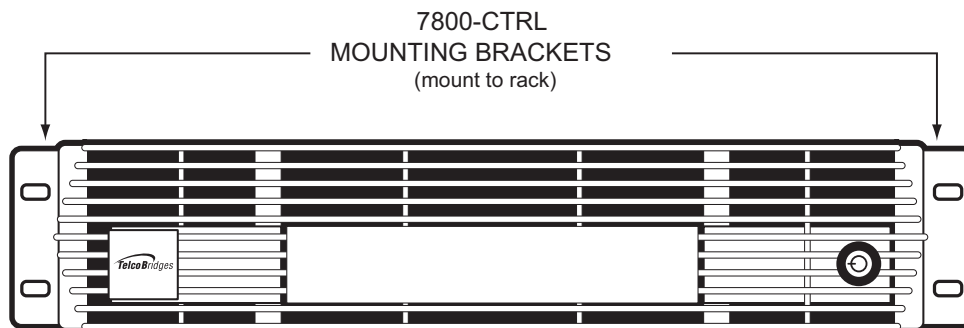
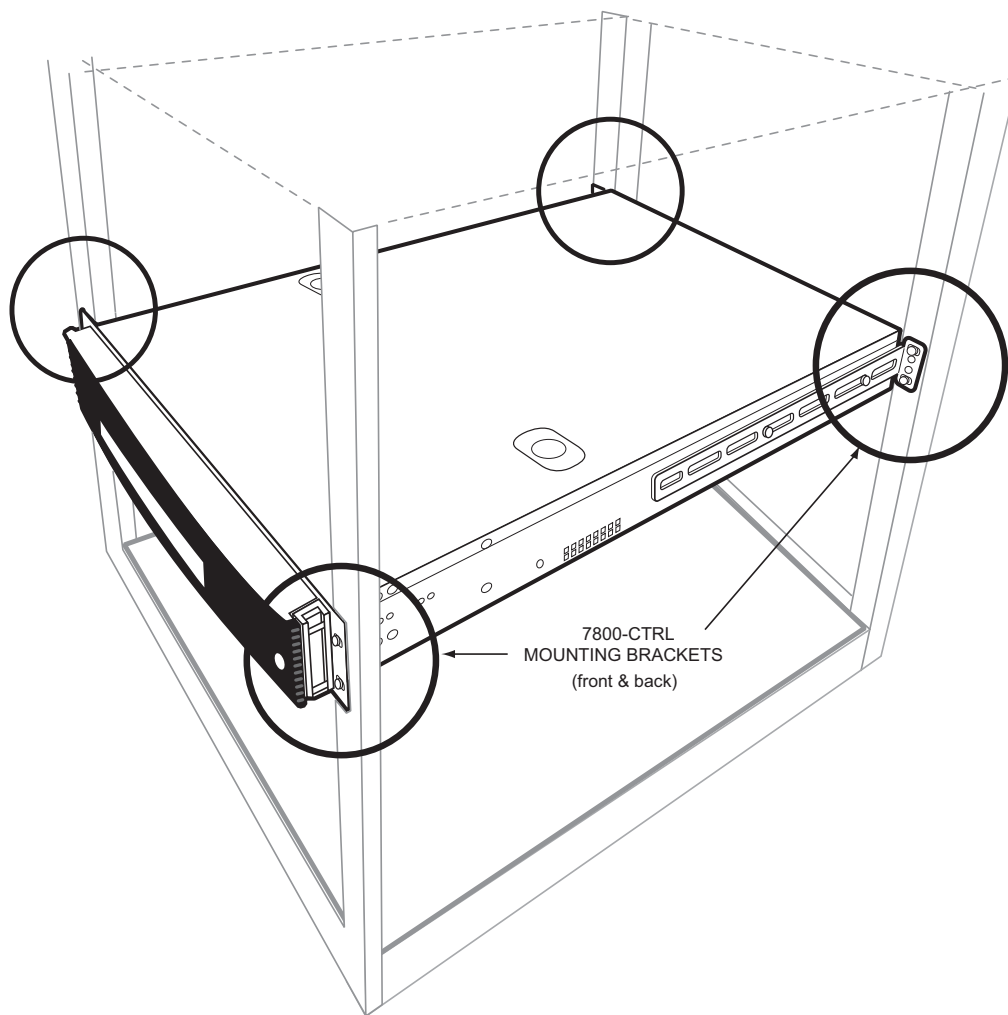

Figure 2.8 Front View of 7800-CTRL with Front Mounting Brackets
Figure 2.9 7800-CTRL Installed in the Equipment Rack
3. Secure it in place using the screws provided with the bracket. See figure 2.8 on page 18 and figure 2.9 on page 19.